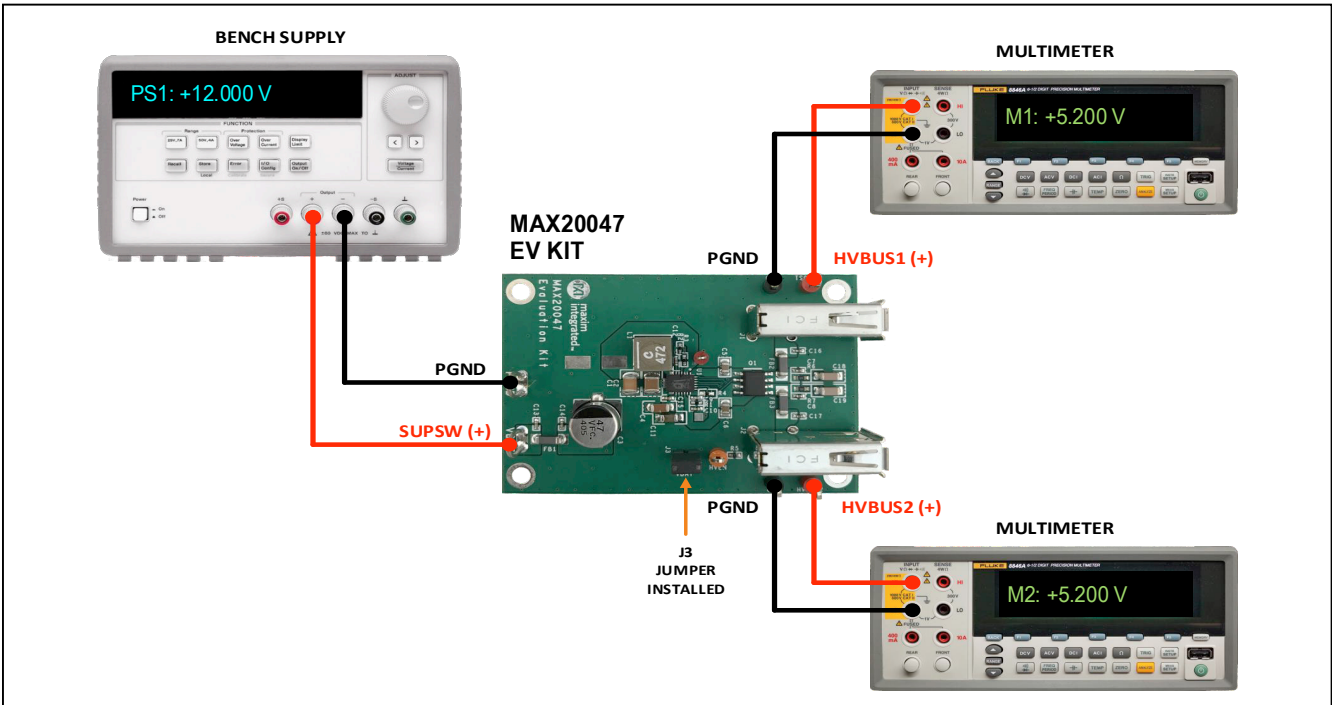

Figure 2. Test Setup for Testing HVBUS1/HVBUS2
Figure 2 shows the test setup to evaluate the IC’s VBUS port voltages:
- 1) With the EV kit connected (see Figure 2), set PS1 to 12.000V and enable the power-supply output.